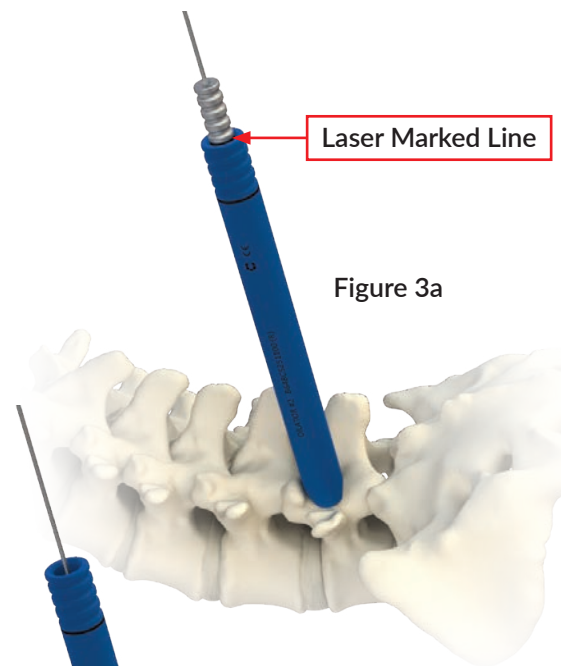

Figure 3a
- Insert Dilator #2 over Dilator #1 (**Figure 3a**) until the tip contacts the pedicle. The laser marked line on Dilator #1 will align with the top of Dilator #2 when the tips are aligned.